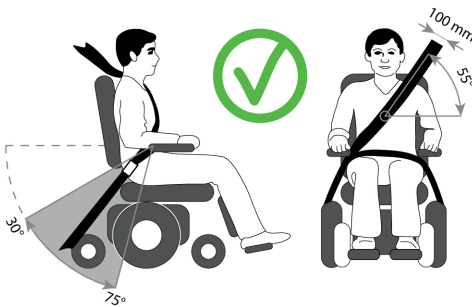

Fig. 7.3
- The upper torso restraint belt must fit over the shoulder and across the chest as illustrated (Fig. 7.3). Restraint belts must be adjusted as tightly as possible consistent with user comfort.